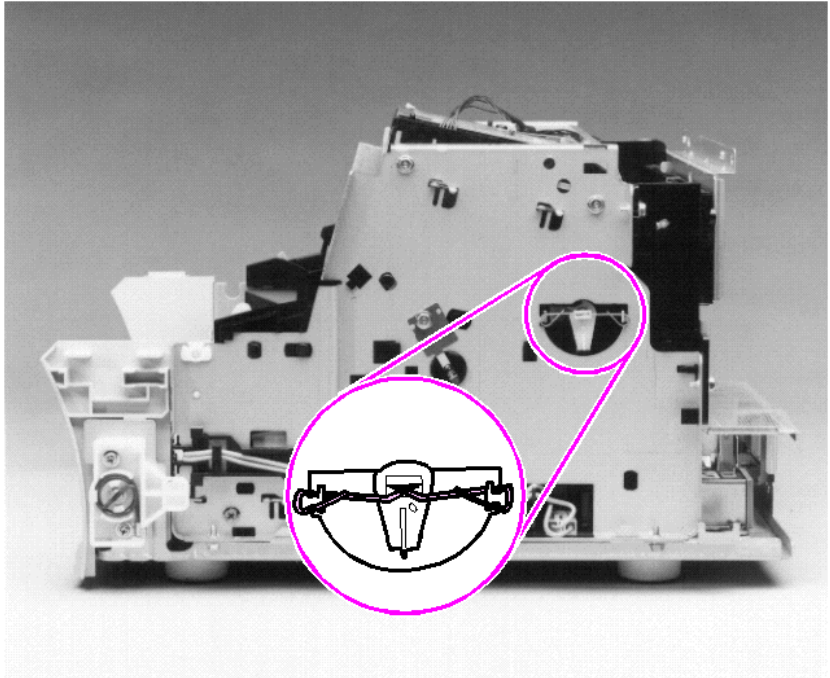

Figure 54. Pickup roller assembly removal (1 of 2)
- Solenoid from the ECU at J204 (see Figure 54, callout 1)